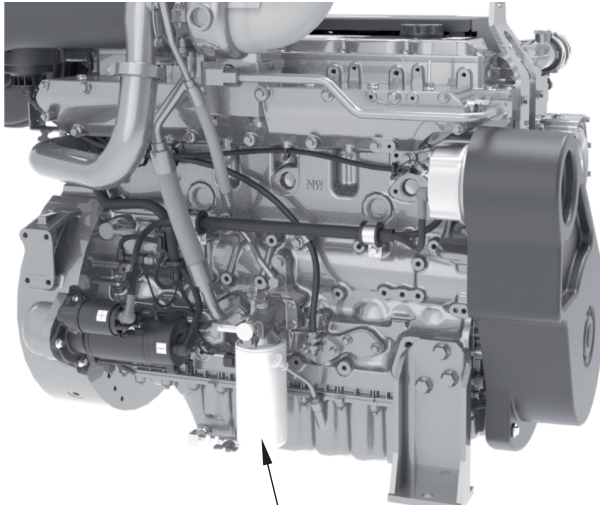
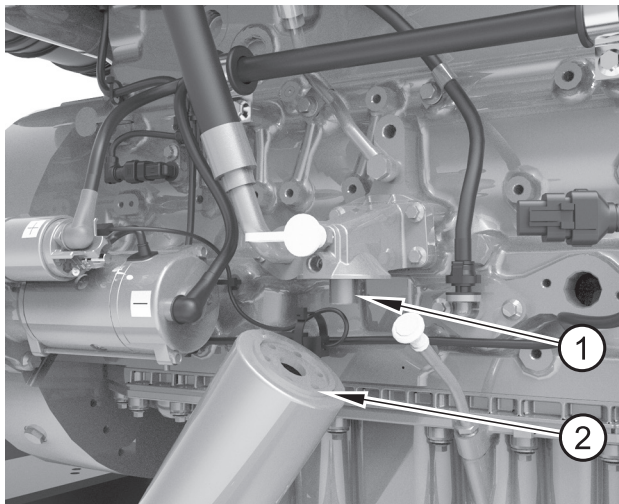

Figure 31
Figure 32
2. Remove the filter canister (figure 31 item 1) with a strap wrench or similar tool. Ensure that the adaptor (figure 32 item 1) is secure in the filter head. Then discard the canister.
4. Lubricate the top of the new canister seal (item 2) with clean engine lubricating oil.